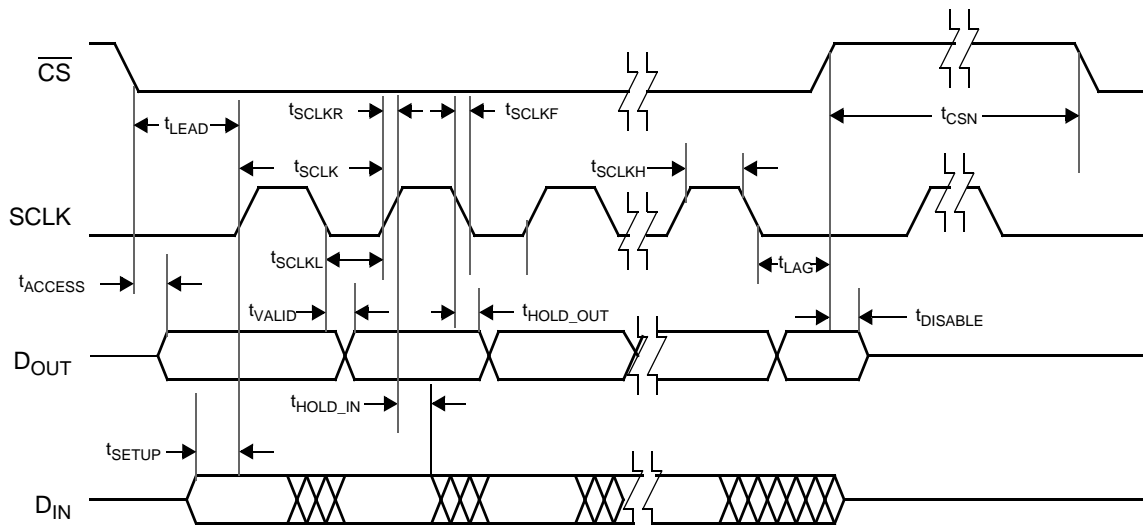

Figure 7. Serial Interface Timing
| 188 | Serial Interface Timing (See Figure 7, $C_{DOUT} \leq 80$ pF, $R_{DOUT} \geq 10$ k $\Omega$ )Clock (SCLK) period (10% of $V_{CC}$ to 10% of $V_{CC}$ ) | $t_{SCLK}$             | 320  | —                 | —    | ns      | (9) |